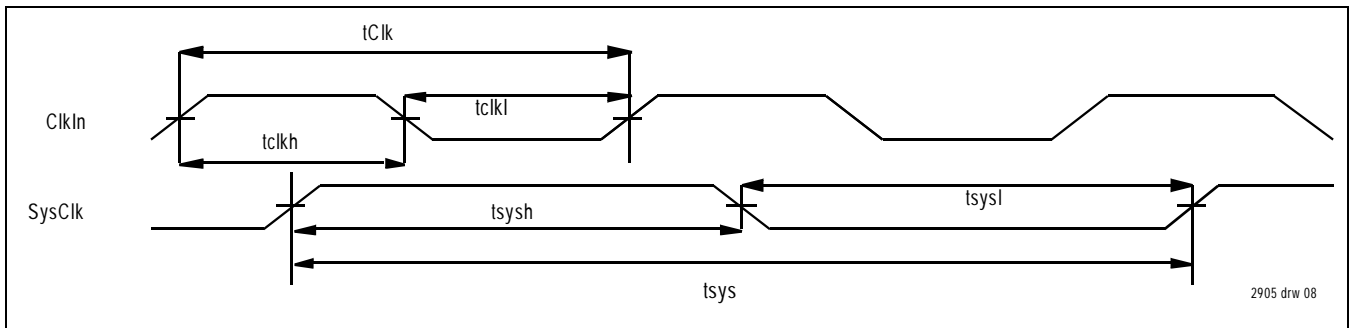

Figure 2: Clocking Sequence
- For timing diagrams of the ClkIn, Reset, and SysClk signals, see Figure 2 through Figure 5 on the following page.